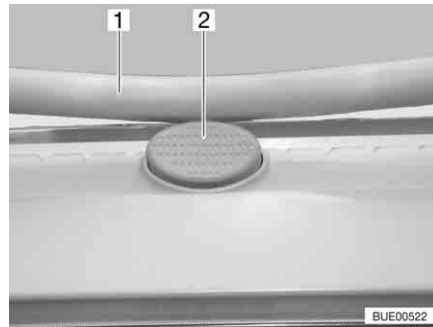

Fig. 77 Safety knob on the Heki skylight
- Press the safety knob (Fig. 77,2) and pull the bar (Fig. 77,1) down with both hands.
- Push the bar upwards with both hands until it is above the safety knob (Fig. 77,2).